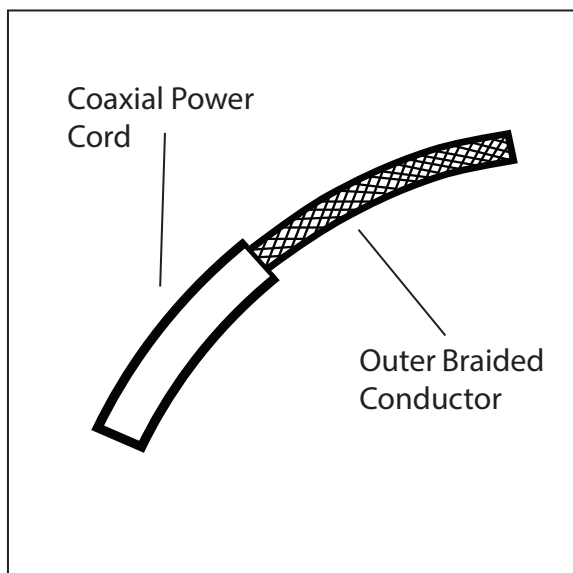

Fig. 1
1. Shut off power to the outlet box (A).
3. Thread wires from outlet box (A) through mounting plate (B) then attach the mounting plate to the outlet box, secure with outlet box screws (C).
4. Determine the hanging location for each pendant. Attach the cord hooks (D) at the hanging locations using screw (E) and optional anchor (F) making sure the slot is pointing towards the canopy and install cap (V).
5. Feed the cord (G) through bushing (H). Determine the height at which the pendants are to be hung (be sure to account for length of cord across the ceiling). Use the screwdriver (J) to loosen the set screw (K). Adjust the pendant cord (G) to the desired length. Tighten the set screws to set. Reserve extra cord in canopy (L). Make sure to feed center cord through canopy nut (X), canopy plate (W), small canopy nut, canopy (L), and nipple (T).
6. Connect the fixture wires to the lever nuts (M) by pulling up on the lever for an empty slot (Fig. 1), inserting the wire, and pushing the lever back down to lock. The inner stranded conductor (N) and the outer braided conductor (P) on each cord (G) must be connected to separate lever nuts, as shown (Fig. 2). Reserve extra cords (G) and lever nuts (M) in the canopy (L). If shortening of the cords is necessary refer to Appendix A.
7. Screw the three safety cable couplings (Q) to the short studs (R) on the mounting plate (B).
- a. Connect the driver's (S) live wire (black) to the outlet box (A) live wire.
- c. Connect fixture's ground wire (green or uncoated) to the outlet box ground wire. If no ground is present in outlet box, connect fixture's ground wire to the mounting plate (B) using the green screw (included).
- d. Carefully place connections in the canopy (L).
9. Attach canopy (L) to nipple (T), secure with small canopy nut (U).
10. Hook pendant cords (G) onto cord hooks. Make any final adjustments to pendant cords. **CAUTION: Do not adjust cord lengths when they are hung on cord hooks (D). Always take cords off the hooks then adjust length. Place cords back on hooks when finished.**
11. Attach canopy plate (W) to canopy (L) using large canopy nut (X).
3. Fig. 1 - Install each shade by lowering the shade connector (A) over the cord collar (B), sliding it forward until it stops, then tightening the shade screw (C). If the shade connector can't move forward, first loosen the screw slightly. Fig. 2 shows completed shade.
1. Make a 1" slice along the length of the cord's outer jacket (Fig. 1). **CAUTION: Do not cut through the outer braided conductor.**
2. Carefully strip the outer jacket of the cord and keep the outer braided conductors intact (Fig. 1).